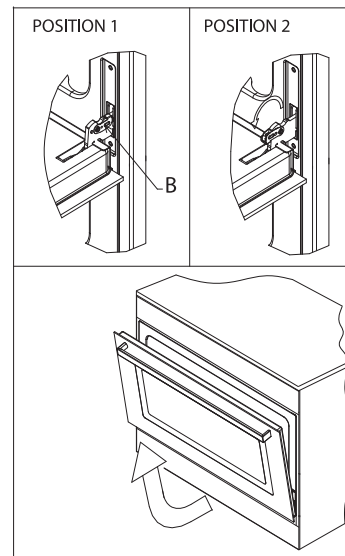

Figure 23
- System for securing the shelves: the oven is fitted with a system for securing the shelves which allows them to be pulled out of the oven without removing them completely; although if it is necessary to completely remove the shelves, you can just lift them up and pull, as indicated in fig. 23.
- Turn the two levers marked "B", turning them from position 1 to position 2 (fig. 23).